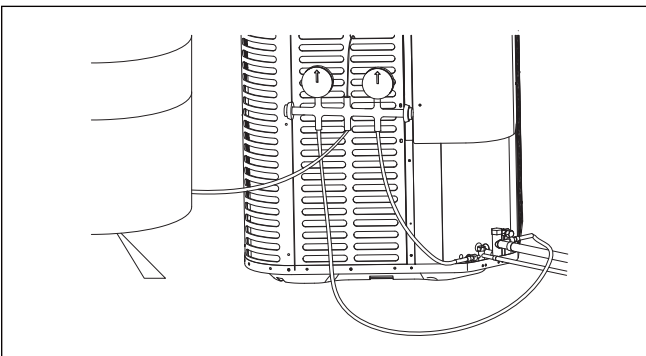

Figure 40
- Connect gages to refrigerant bottle and unit as illustrated (Figure 40).